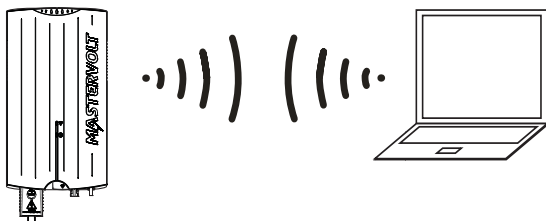

Figure 6-1: Soladin WiFi communication – Point-to-Point mode
1. Check if the yellow WiFi LED (3) is blinking (• - - - • - - - •), indicating it is generating a point-to-point WiFi network. If this is not the case, push the WiFi button (6) shortly until the WiFi LED blinks as indicated.
2. Refer to fig. 6-1. Using a **WiFi device**, connect to the WiFi network called [Mastervolt-Soladin-xxxx]. No password is required ("xxxx" represents the last 4 digits of the Soladin serial number)